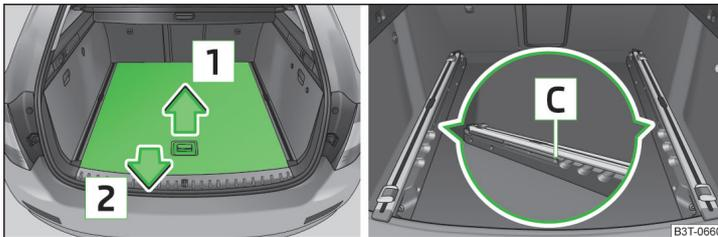

Fig. 113 Luggage compartment: partially pulling out the variable loading floor
- Grasp the rear of the variable loading floor by the handle and lift gently in the direction of the arrow **1** » Fig. 113.
- Grasp the rear of the variable loading floor by the handle and lift in the direction of the arrow **1** » Fig. 113 on page 105.